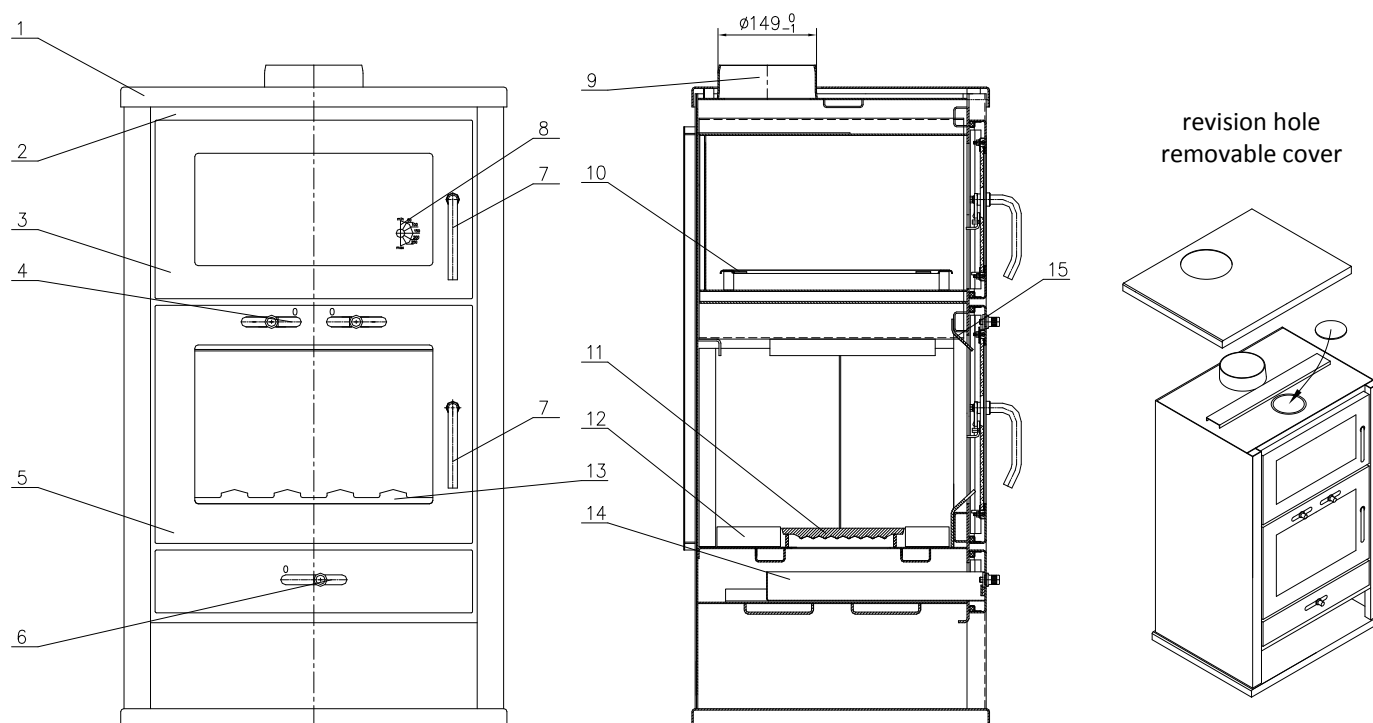

Fig. 1.
Under the top plate (pos.1, Fig.1) there is a revision hole, which is closed with a removable cover. This hole is for cleaning the surface above the muffle. It is advisable to remove the accumulated soot at least 2 times during the heating season.